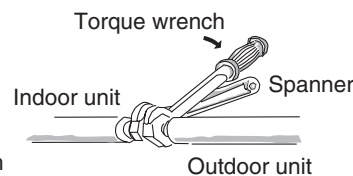

Fig. 5-6
(2) To fasten the flare nuts, apply specified torque.
- When removing the flare nuts from the tubing connections, or when tightening them after connecting the tubing, be sure to use 2 adjustable wrenches or spanners. (Fig. 5-6)